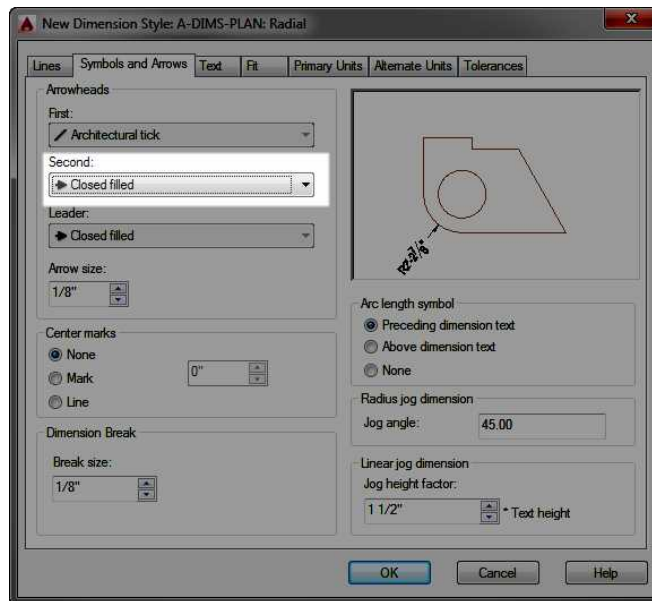

FIGURE 12.30: Changing the Arrowhead style for the Radial A-DIMS-PLAN child style
4. From the Symbols And Arrows tab, click the Second drop-down list within the Arrowheads group to change from Architectural Tick to Closed Filled, as shown in Figure 12.30.